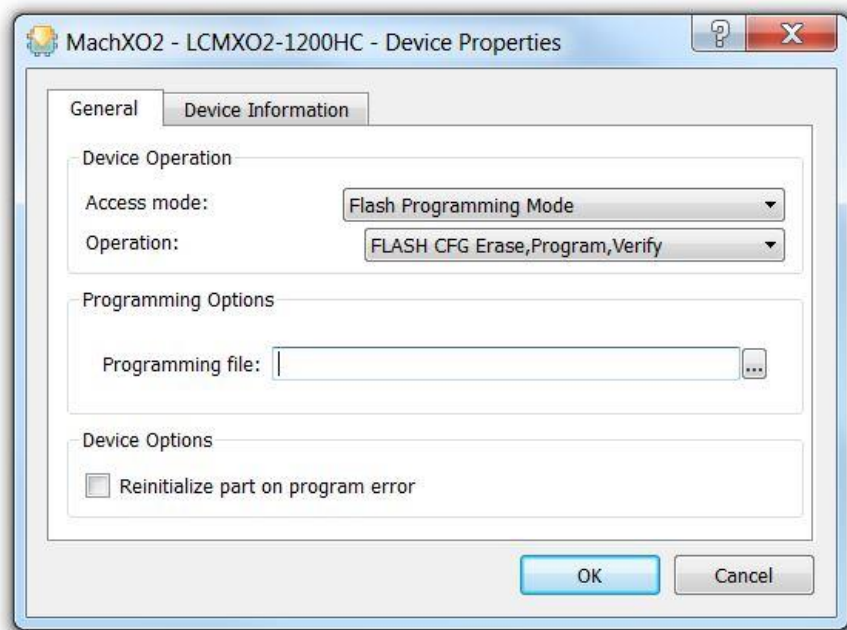

Figure 3.4. Diamond Programmer CFG Erase, Program, Verify Operation
- In Diamond Programmer use the **FLASH CFG Erase, Program, Verify** operation as shown in Figure 3.4 to configure the FPGA section with a user pattern but, not erase and reprogram the feature row. Additionally, the **FLASH CFG and UFM Erase, Program Verify** operation can be used and retain the I²C address.